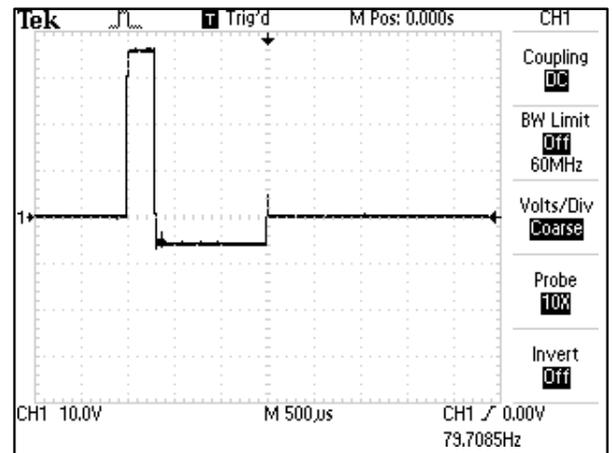

Figure 5.8
G. TENS- ASYMMETRICAL BIPHASIC (Figure 5.8)